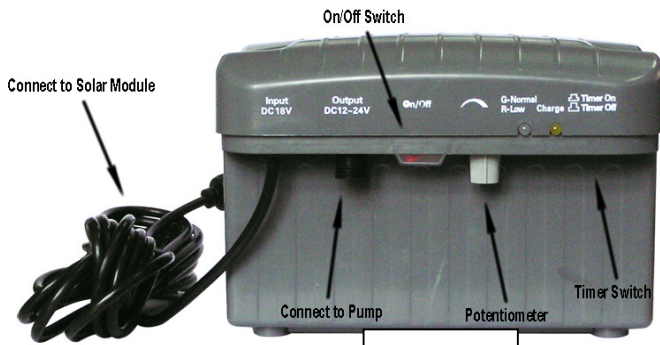

Figure 4
- 4) Attach the pump plug to the "Output" socket of the battery back-up, and also tighten the connection nut. (see Figure 4)
- 11) To change pump performance, the output voltage can be adjusted in the range of 12V-24V through the potentiometer knob. (Figure 4)